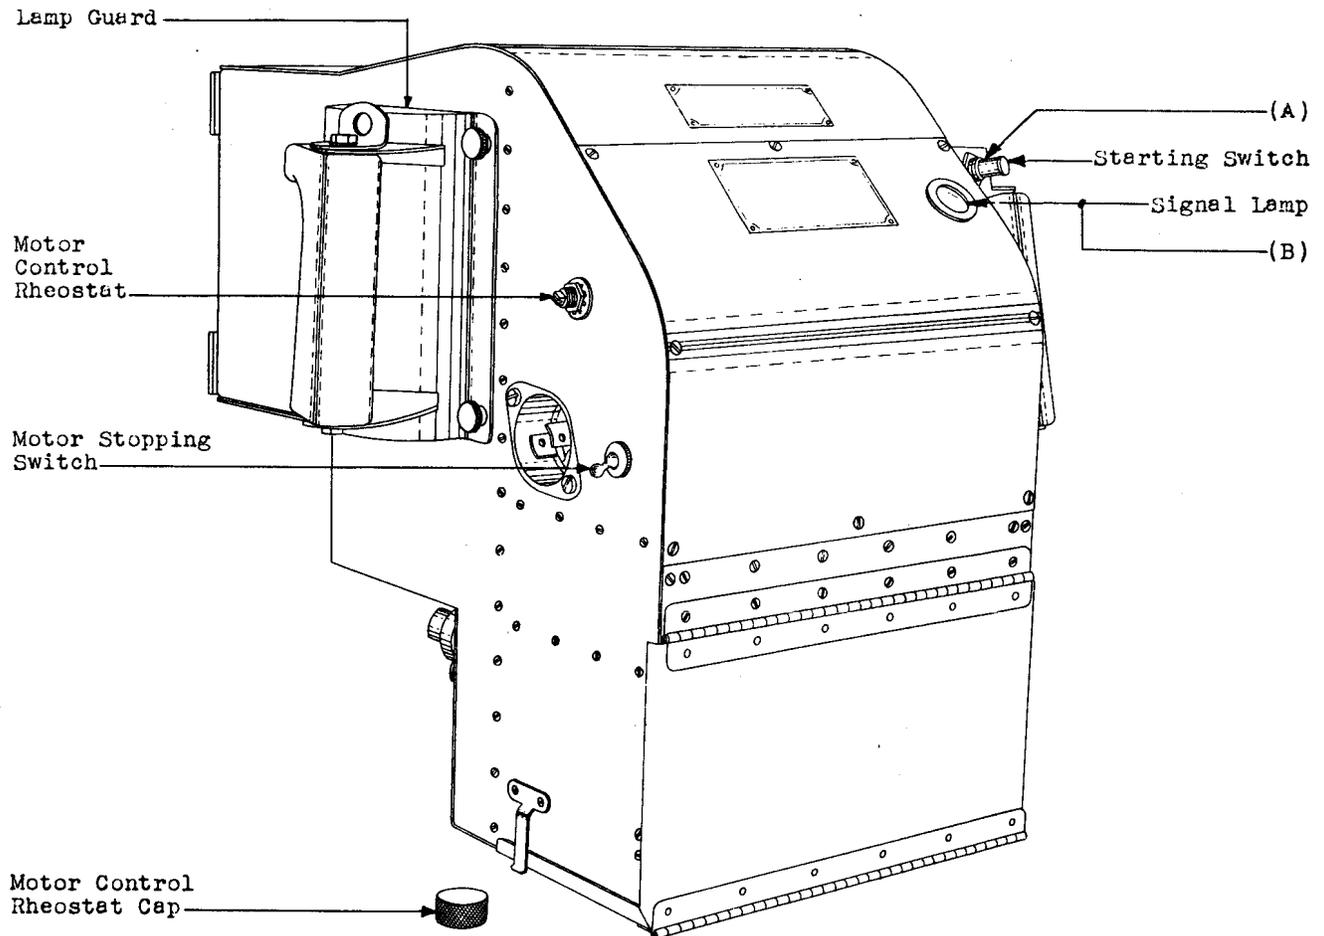

Fig. 1 - KS-8320 Camera
- (5) Starting Switch Plunger - Fig. 1 (A)
- (6) Starting Switch Plunger - Fig. 1 (A)
(1) To check that the light baffles are satisfactorily positioned, attach a sheet of bond paper to one side of a plate of 1/8" thick glass cut approximately 7" x 9". With the camera lying hood up, place the glass with the bond paper down inside the hood. The glass should be below and make contact with the flat surface which bears against the faces of the message register covers. If the glass fits snugly it will rest on the reflectors. If necessary, fasten the glass in position with a commercial brand of gummed tape. Operate the starting switch and when the photographic lamps light, stop the motor by operating the motor stopping switch. Check that the illumination is approximately uniform over the surface of the plate (there should be no vertical band near the middle of the plate which is darker or lighter than the rest of the plate). This check must be made when looking at the plate from a position directly above it and not from either side of its center.
2.04 Freedom of Movement of Starting Switch, Measuring Roller Release Pin, Pressure Plate, and Film Guide Roller, Fig. 1(A), 2(I) and 6(D) and (E): The starting switch and measuring roller release pin shall operate and restore freely. The pressure plate shall restore without binding after being depressed. The film guide rollers shall rotate freely. Gauge by eye and feel.